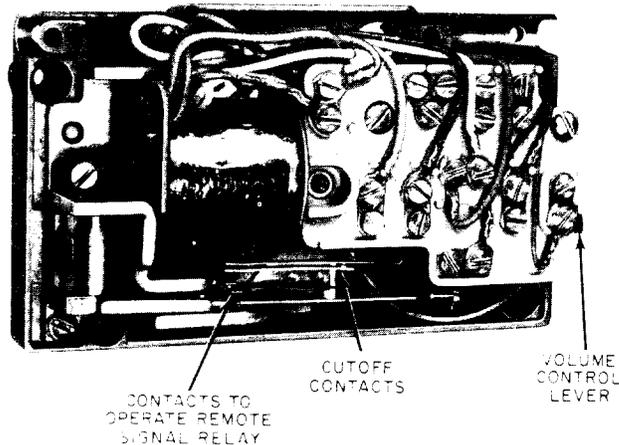

Fig. 3—E1D Ringer, Internal View
**4.02** The E1D ringer is equipped with two sets of contacts (Fig. 3). One set, controlled by the clapper, operates a remote signal relay; the other set, operated by the volume control cam, cuts off remote signals. For connections, refer to section on farm interphone.